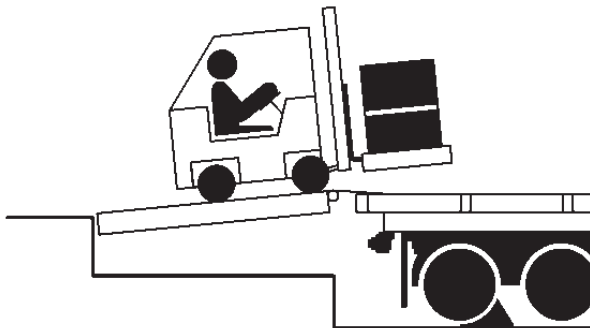

Figure 23
5. Proceed with loading or unloading the transport vehicle, see **Figure 23**.